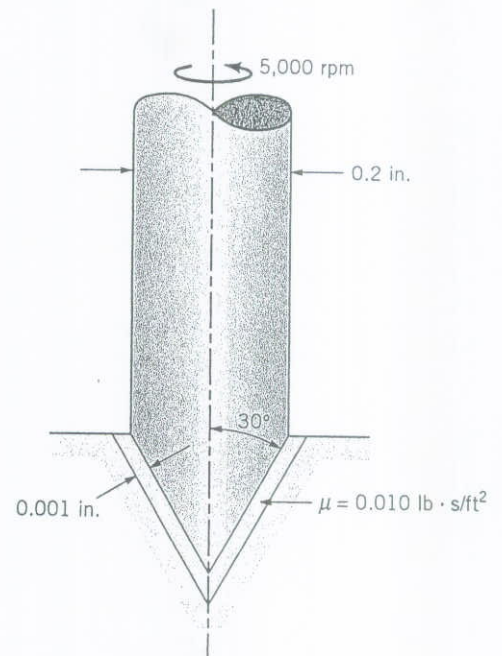

FIGURE P1.69
1.69 A pivot bearing used on the shaft of an electrical instrument is shown in Fig. P1.69. An oil with a viscosity of $\mu = 0.010 \text{ lb}\cdot\text{s}/\text{ft}^2$ fills the 0.001-in. gap between the rotating shaft and the stationary base. Determine the frictional torque on the shaft when it rotates at 5,000 rpm.